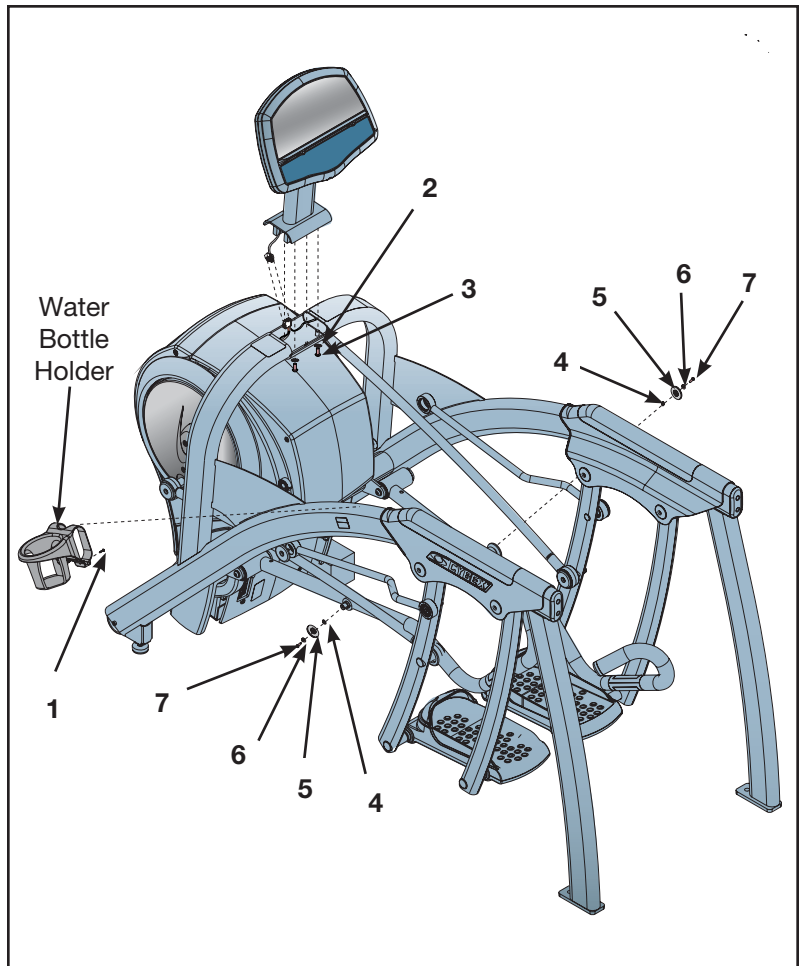

Figure 2
- A. Install the hardware as shown in Figure 2. Refer to Chapter 5 of the Arc Trainer 610A Owner's Manual part number 5610A-4 for detailed instructions. **NOTE:** Place a drop of loctite (10) on the SHCSC (7) and place another drop of loctite into the shaft where the SHCSC (10) will be tightened into).